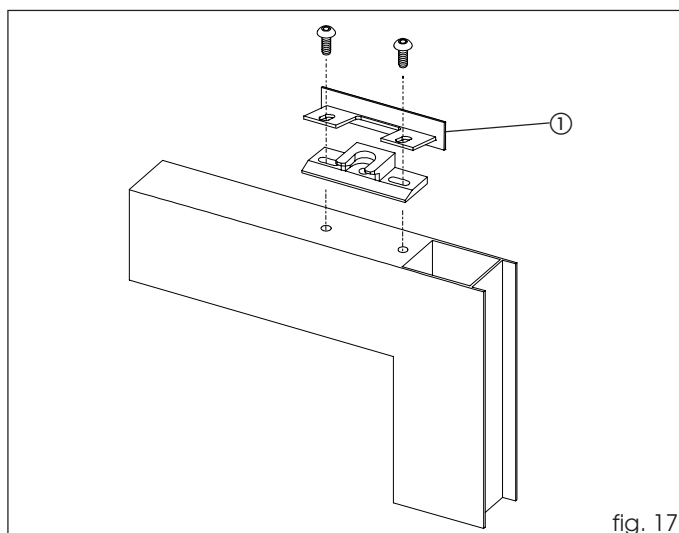

fig. 17
Before installing the block, position the panel closure cover as shown in fig. 17 ref. ①.